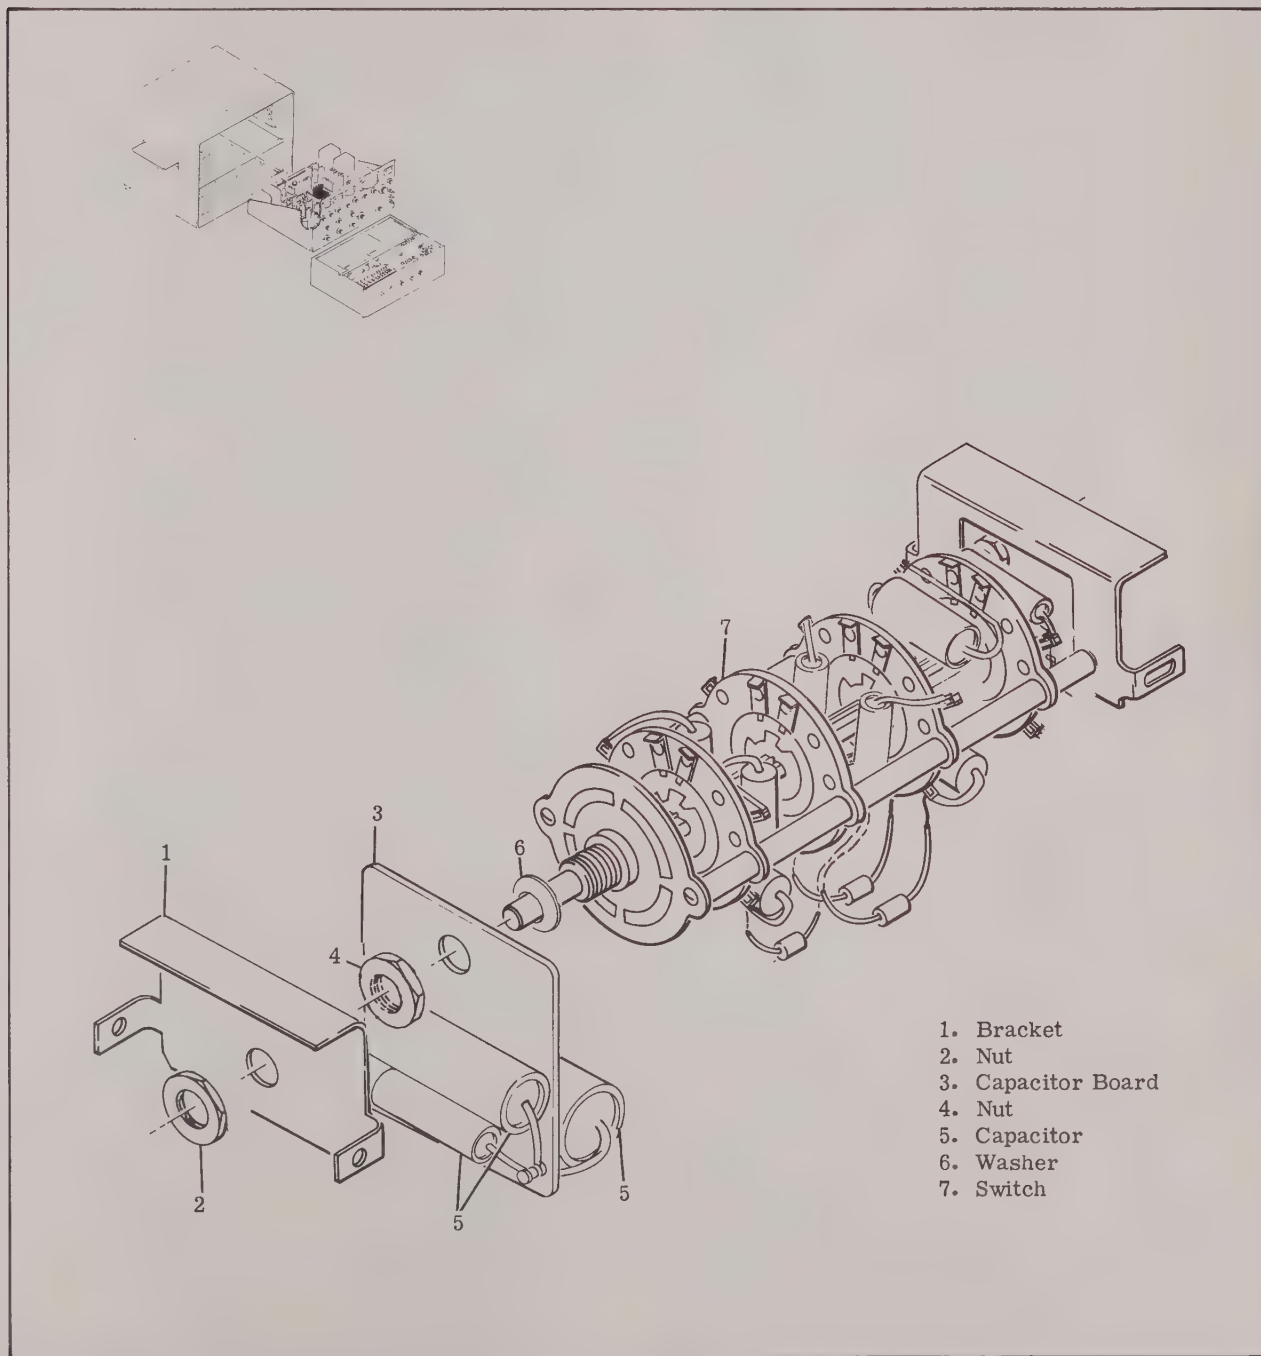

Figure 4-10. Multiplier Switch
a. Remove bracket (1, figure 4-10) by removing nut (2).
b. Remove capacitor board (3) by removing nut (4).
c. Remove capacitors (5) from board (3) by unsoldering leads.
d. Remove washer (6) from switch (7).